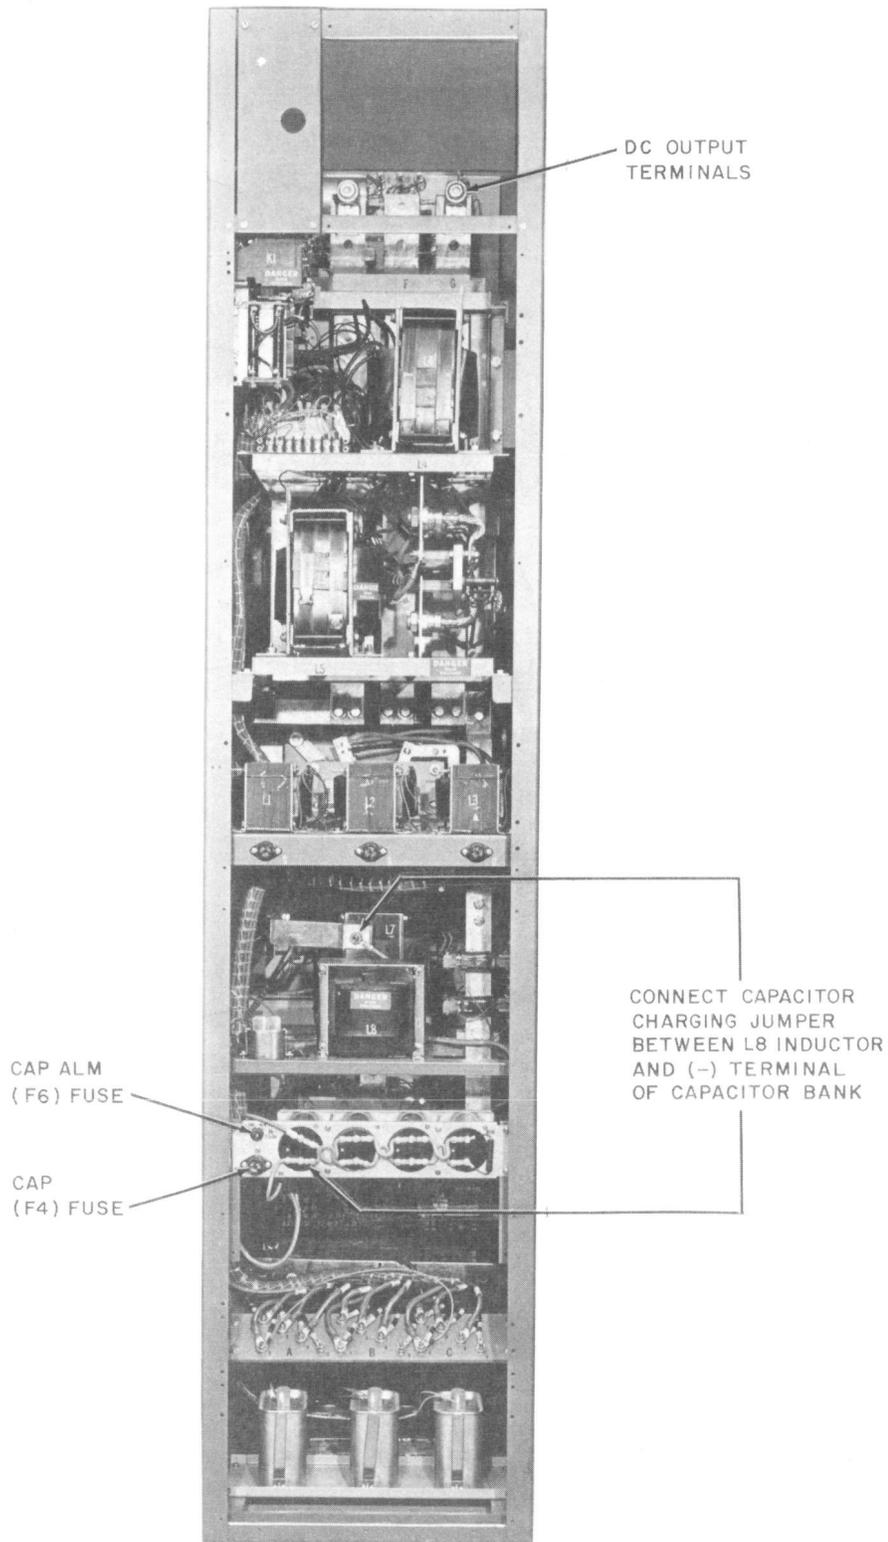

Fig. 2—KS-19210 L11 Rectifier—Rear View—Door Removed
- (1) Verify that the rectifier has been removed from service in accordance with appropriate power plant Bell System Practice, and the rectifier controls are positioned as listed in 3.01.
- (2) ◆Remove the CAP ALM (F6), 1 1/3-ampere fuse, and then the CAP (F4), 30-ampere fuse. See Fig. 2.